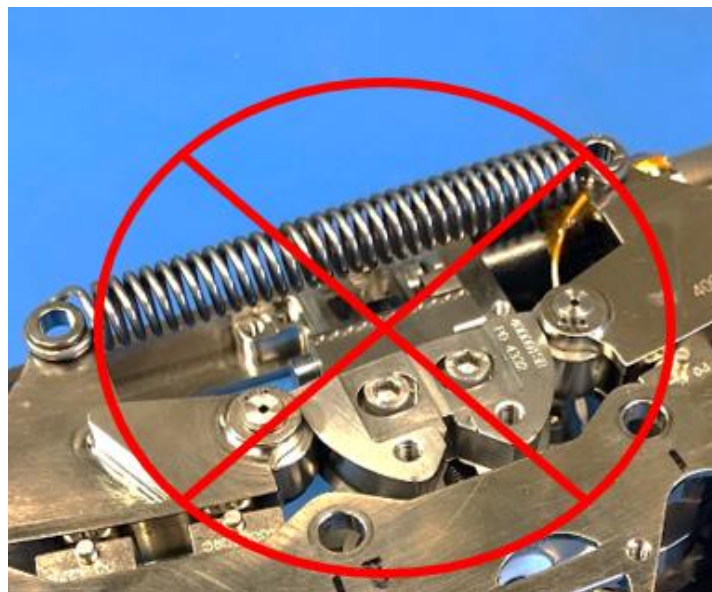

Figure 7-2: Avoid Initiation area when handling
2. Do not touch the initiation components. See Figure 7-2.